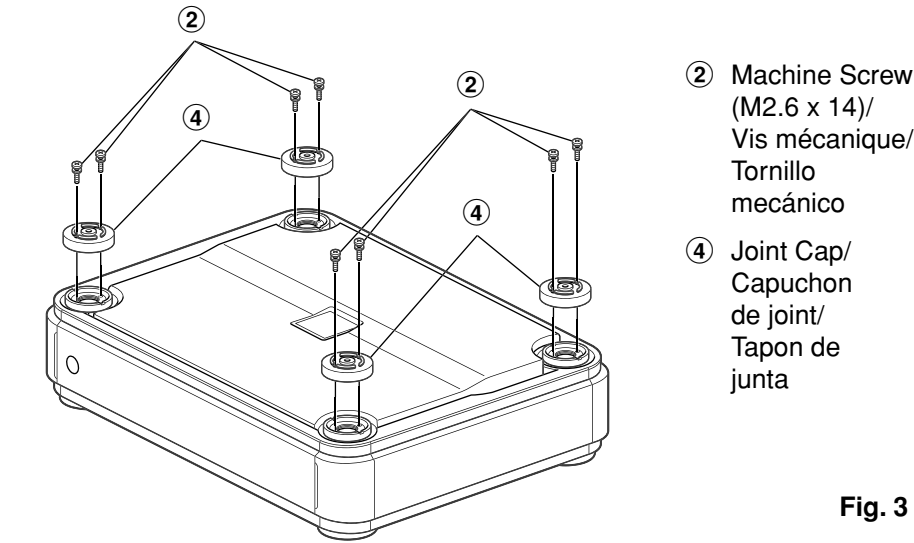

Fig. 3
- Attach the four joint caps (supplied with connected amplifier) in the four corners of the first unit with 2 machine screws (M2.6 x 14, supplied with connected amplifier) per each cap. Refer to fig. 3.